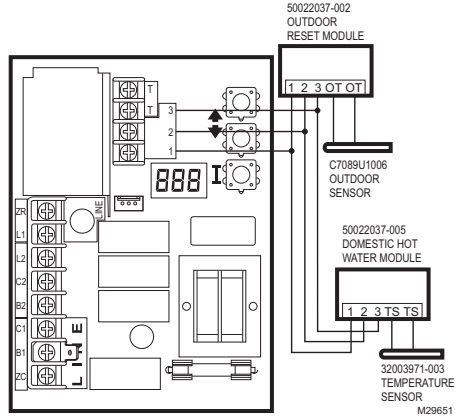

Fig. 6. Wiring the Outdoor Reset Module and the Domestic Hot Water Module.
4. Connect sensor to circuit board by pressing connector on sensor unit into mating connector on circuit board (refer to Fig. 6).
Refer to Fig. 6 for Connections for the optional Outdoor Reset Module and the Domestic Hot Water (DHW) module. In subsequent wiring diagrams these modules will be displayed with a dotted line signifying that they are optional.